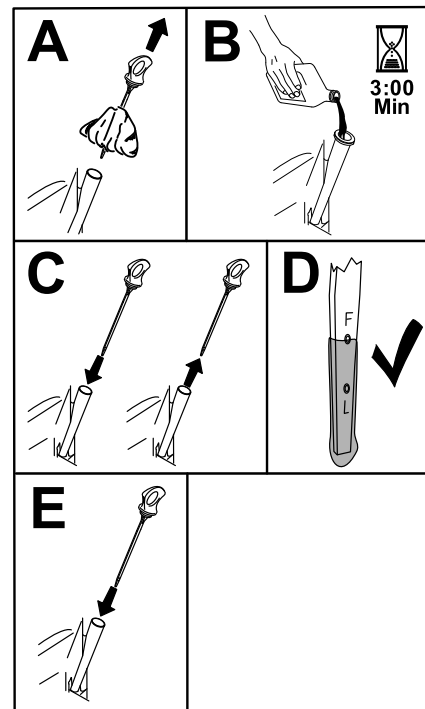

Figure 42
5. Slowly pour approximately 80% of the specified oil into the filler tube and slowly add the additional oil to bring it to the **Full** mark (Figure 42).
3. Fill the crankcase with the proper type of new oil (Figure 42).